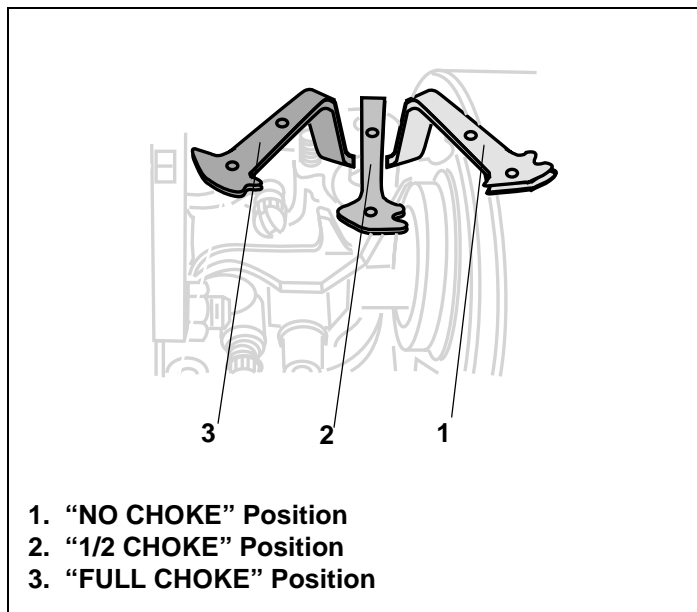

Figure 30. Horizontal Mount Choke Control Positions
*Some engines are equipped with a horizontal mounted choke control. See Figure 30.*
If restarting a warm engine move choke control to "NO CHOKE" position. See Figure 30 thru 33 starting on page 16. Afterward, continue reading instructions below.